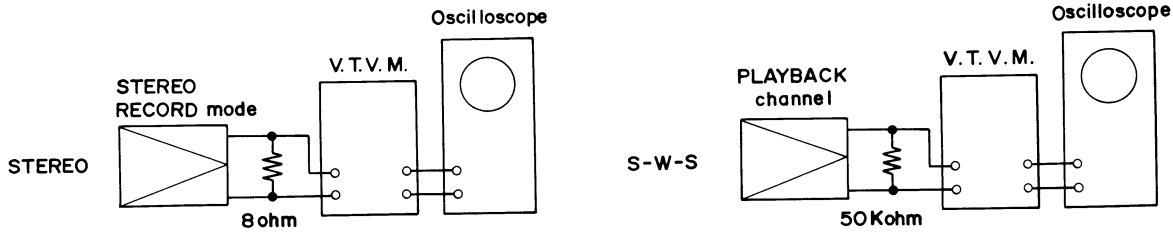

Fig. 24
6. MEASUREMENT OF BIAS LEAK VOLTAGE (Refer to Fig. 24)